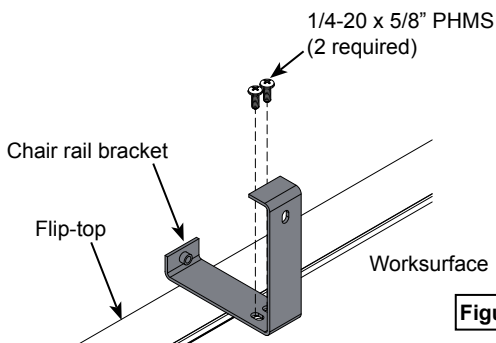

Figure 1B
Orient and attach the chair rail bracket to the center of the worksurface as shown in **Figure 1B** with (2) 1/4-20 x 5/8" PHM screws.